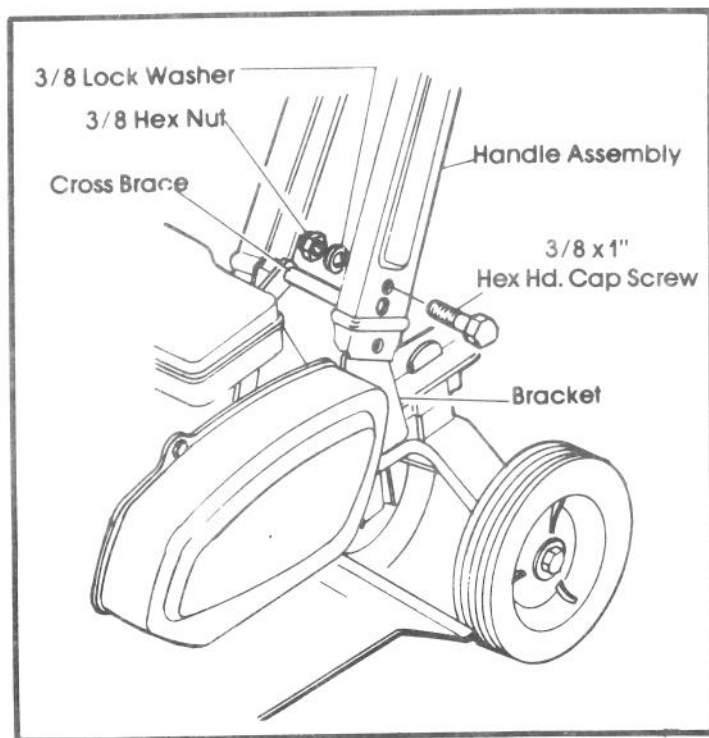
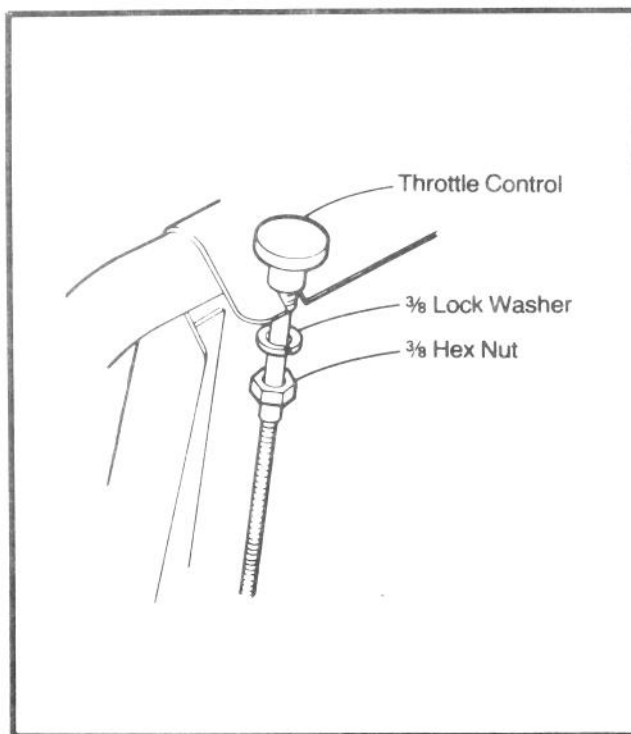

FIGURE 1
FIGURE 2
1. Position handle over brackets and line up bottom hole in handle with bottom hole in bracket (Fig. 1). Insert a 3/8-16 x 1 hex hd. cap screw through the bottom hole in handle and bracket on each side.
1. Slide the threaded part of control into slot on the back of handle (Fig. 2). **NOTE:** Throttle cable must run above cross brace (Fig. 1).
2. Slide the 3/8 lock washer and 3/8 hex nut up the control cable and secure control to handle by tightening the hex nut to the control from underside of the slot. (**NOTE:** Lock washer and nut shown in Fig. 2 are placed on cable at factory.)